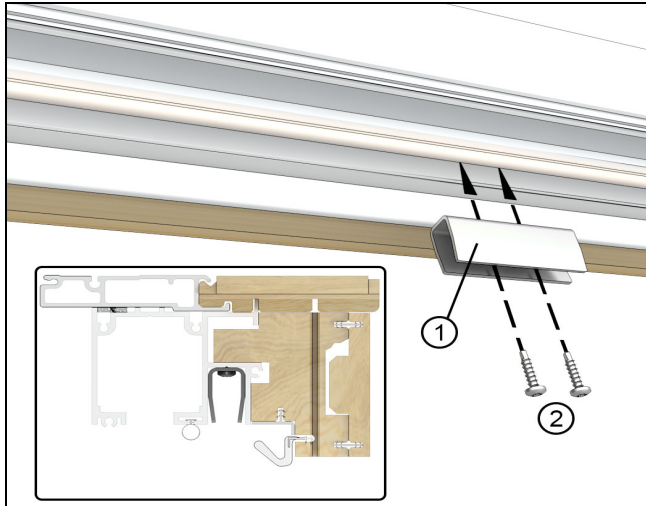

Figure 62
6. For configurations that have a sill strike, install the head jamb strike directly above it in the channel shown in Figure 62 using two #8-18 x 3/4" Pan Heads. Confirm that the location is correct by measuring the distance from one jamb to the edge of the strike and comparing that to the sill strike measurement. If there are screws that impede the installation of the head jamb strike, remove and discard those screws before attaching the strike.